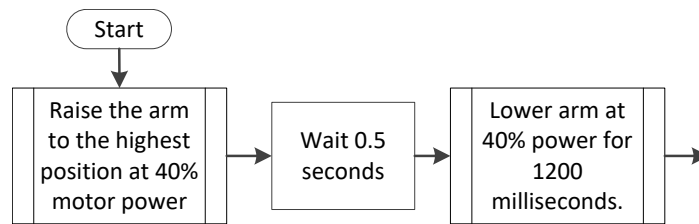

Figure 2: Example flowchart for the final task.
1. Complete the flowchart shown in Figure 2 (or start a new one) on a *new blank page*. Use estimates of powers and time durations to complete your initial flowchart; these will be updated once you write and test your program.